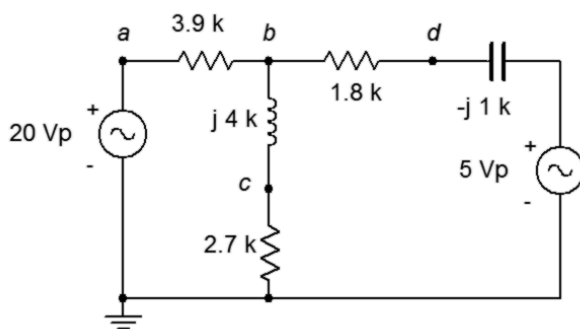

Figure 6.3
- Given the circuit in Figure 6.3, write the mesh loop equations and determine v_b .
- Use mesh analysis to find the current through the $1.8 \text{ k}\Omega$ resistor in the circuit of Figure 6.3.
48. Use nodal analysis to find the current through the $2.7\text{ k}\Omega$ resistor in the circuit of Figure 6.3.